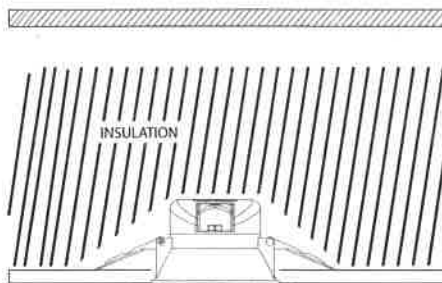

Figure 1
- * The down lights shall be installed at location and in conditions are described in Figure 1.